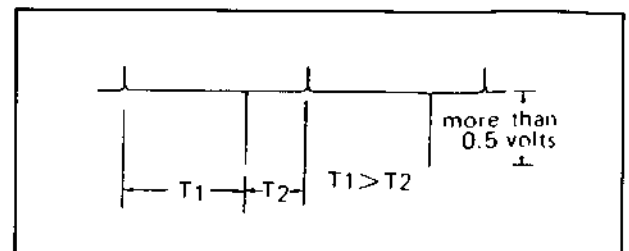

Fig. 5-7 Control signal
3. Verify the negative pulse of the control signal as shown in Fig. 5-7.